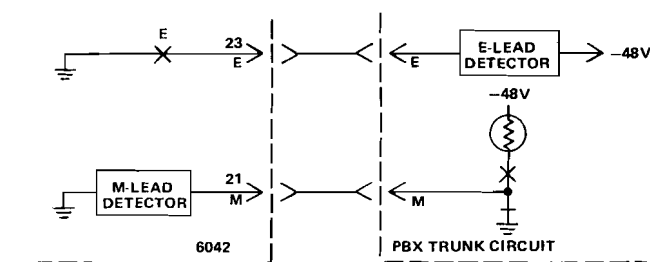

figure 4. DX1/Type I E&M interface
1.07 The 6042 can be switch-optional for DX1 or DX2 operation. With DX1 operation, M-lead signals are input to and E-lead signals are output from the module. With DX2, E-lead signals are input to and M-lead signals are output from the module. Either Type I, II, or III E&M lead interfacing (see figures 4 through 6 in section 2 of this Practice) can also be switch selected. Please note that while the Type I and II interfaces can be used with either DX1 or DX2 operation, the Type III interface can **only** be used with DX1.
2.06 As stated above, the electronic DX set in the 6042 is designed to operate in either the DX1 mode (where M-lead signals are input to and E-lead signals are output from the module) or in the DX2 mode (where E-lead signals are input to and M-lead signals are output from the module). The DX2 mode is generally used in tandem applications of DX sets, in applications where the 6042 interfaces carrier or other signaling sets, or in other situations where a terminal-side E&M-lead interface must be accommodated. Both the DX1 and DX2 modes eliminate the need for a pulse-link repeater in applications where the module interfaces a carrier channel or in tandem DX-set applications. Either Type I, II, or III E&M lead interfacing can be switch-selected (see figures 4 through 6). The Type I and II interfaces can be used with either DX1 or DX2 signaling, while the Type III interface can **only** be used with DX1 signaling. In general, Type I interfacing is used with electromechanical switching systems while Type II and Type III interfacing are used in electronic switching environments.